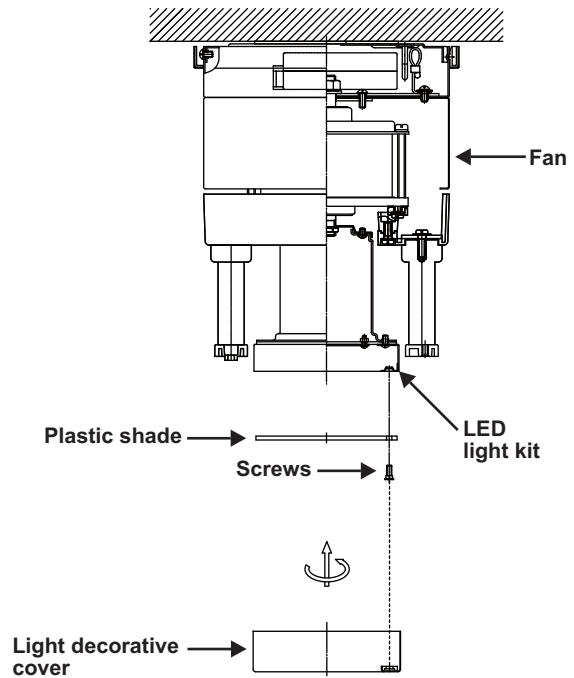

Figure 14
1. Attach the plastic shade to the LED light kit with the 2 screws provided. (Fig. 14)
3. Raise light decorative cover up against the LED light kit and secure it to the fan by turning the light decorative cover clockwise until snug. DO NOT OVERTIGHTEN. (Fig. 14)